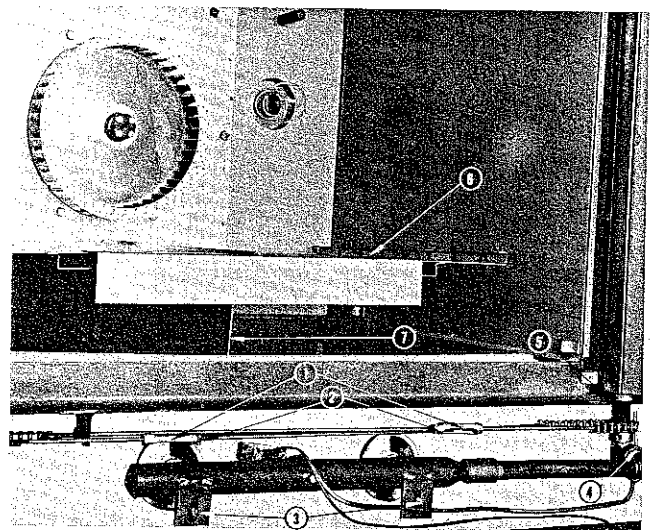

FIG. 10
1. The FA-100 & GZL-10 features side-mounted doors which operate simultaneously. The doors are properly adjusted when the appliance leaves the factory. However, should field adjustment be necessary, two adjustable turnbuckles (Figure 10, No. 1) are located immediately behind the combustion compartment cover (CAUTION: THE TURNBUCKLES ARE LOCATED IN A HEAT ZONE). When the doors are in proper adjustment, the door without the handle should be fully closed when the door with the handle has 1/2" to 1" (12 to 25mm) of travel left before being fully closed. Proper adjustment is made by turning first one turnbuckle, then the other, until the doors are adjusted as described above.
CAUTION: If one turnbuckle is adjusted, the other must be adjusted to prevent undue strain on the door operating mechanism. When the proper adjustment has been made, be sure to tighten the turnbuckle lock nuts (Figure 10, No. 2). The turnbuckles should be tight but not over-tight.
(1) Remove manifold bolts (Figure 10, No. 3) disconnect manifold union (Figure 10, No. 4) and slide manifold away from oven just far enough to permit the removal of the orifices with the proper size wrench.
1. Disconnect manifold union (Figure 10, No. 4).
2. Remove manifold bolts (Figure 10, No. 3).
4. Remove deflector by removing attaching screws (Figure 10, No. 6).
5. Remove burner divider (Figure 10, No. 7).